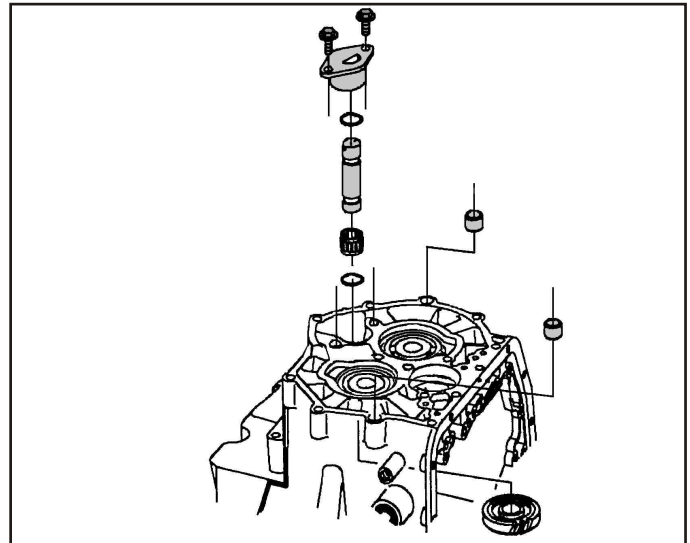

Figure 80
retaining bolts and lift the cap from the case (See Figure 80).
34. Once the cap is removed, reach inside the case to hold the reverse idler gear while pulling out the reverse idler gear shaft (See Figure 80).
35. Once the shaft has cleared the case, the reverse idler gear and bearing can be removed from the case (See Figure 80).
36. It is advised to remove the rear cover dowel pins as a safety precaution to prevent any possible damage to the dowel pins during the case cleaning and rebuilding process (See Figure 80).